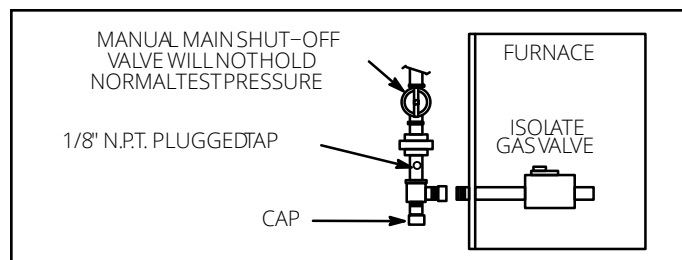

Figure 51.
5. A 1/8" N.P.T. plugged tap or pressure post is located on the gas valve to facilitate test gauge connection. See Figure 51.
When testing pressure of gas lines, gas valve must be disconnected and isolated (see Figure 51). Gas Valves can be damaged if subjected to pressures greater than 1/2 psig (3.48 kPa).